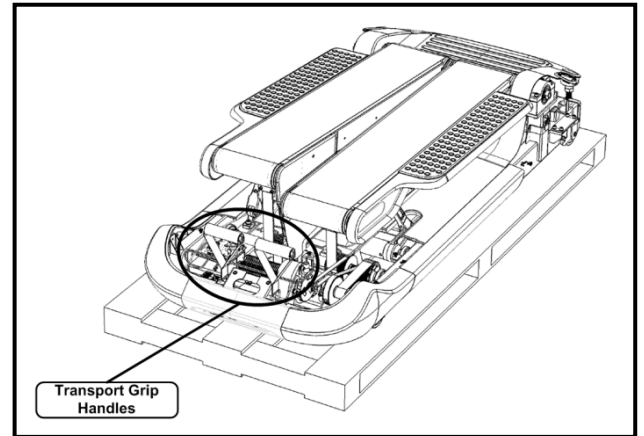

Fig. 4
- To move the TreadClimber off the pallet; remove the alternator shroud to expose the transport grip handles. With two people and each gripping a handle; drive the base off the rear of the pallet (Fig. 4).